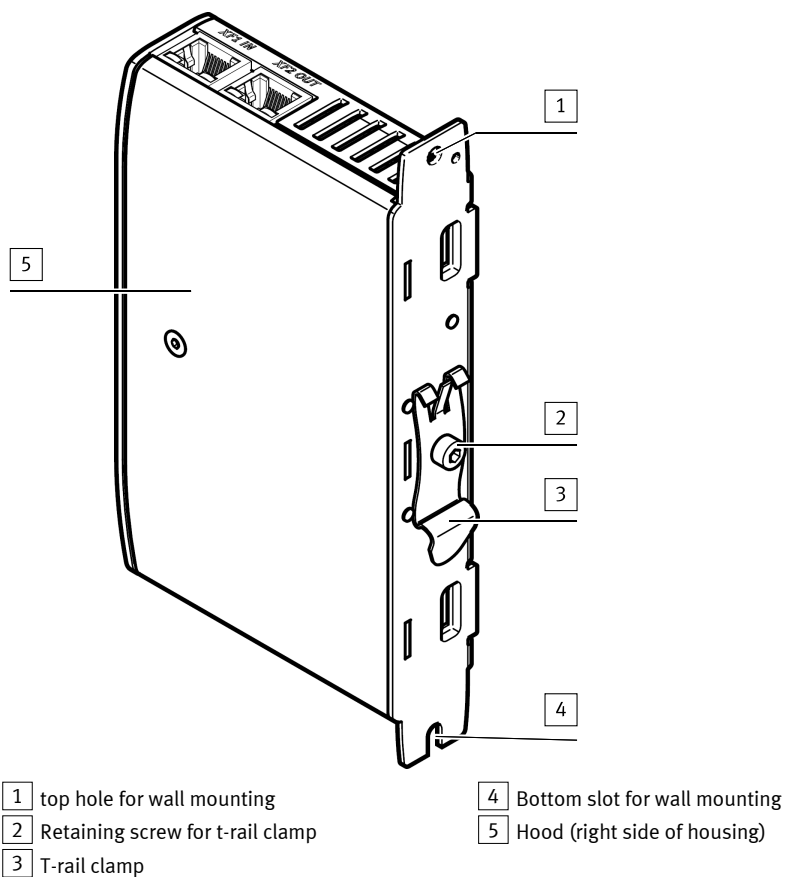

Fig. 5 Elements on the back
- If the H-rail clamp is not premounted, screw it on using the original screw on the back → Fig.5.